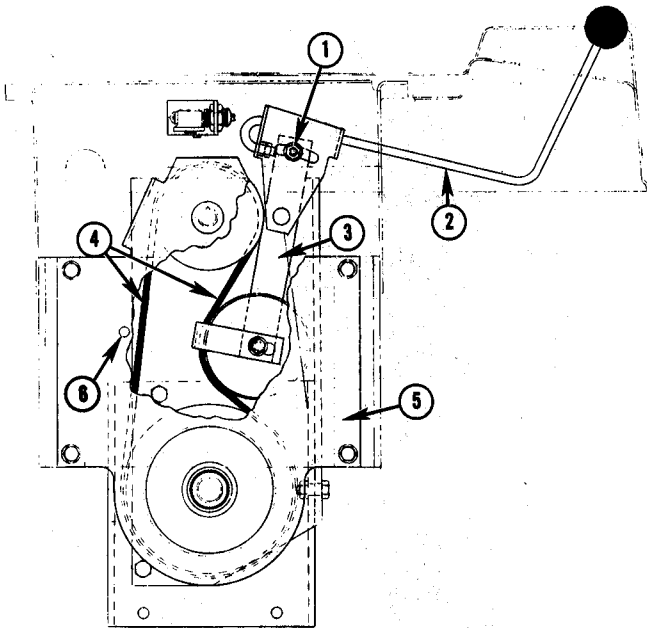

Fig. 29 — Rear PTO Belt Adjustment
1. Loosen nut, No. 1, Fig. 29.
1. Remove rear PTO cover plate, No. 5, Fig. 29, and loosen belt tension.